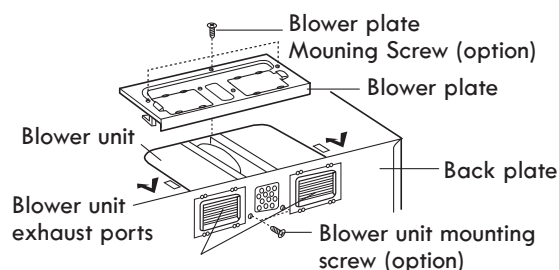

Figure 17
6. Reattach the blower plate to cabinet so the exhaust ports and blower plate opening are aligned. Attach with one blower unit mounting screw and then one blower plate mounting screw. See Figure 17.